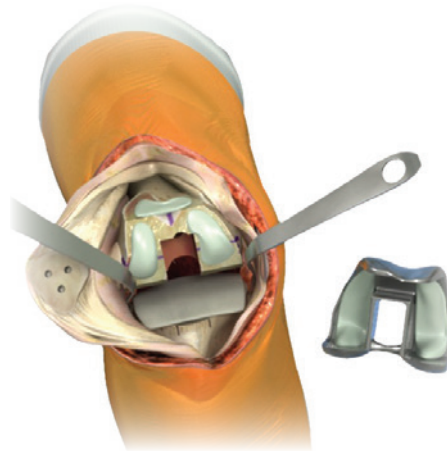

Figure 26b
4. Flex the knee to 90° keeping the thin bent Hohmann laterally and removing the Aufranc retractor. Mix and prepare bone cement for femoral component and distal femur. Apply cement to the femoral component or prepared bone, based on the surgeon's preference (Figure 26b).